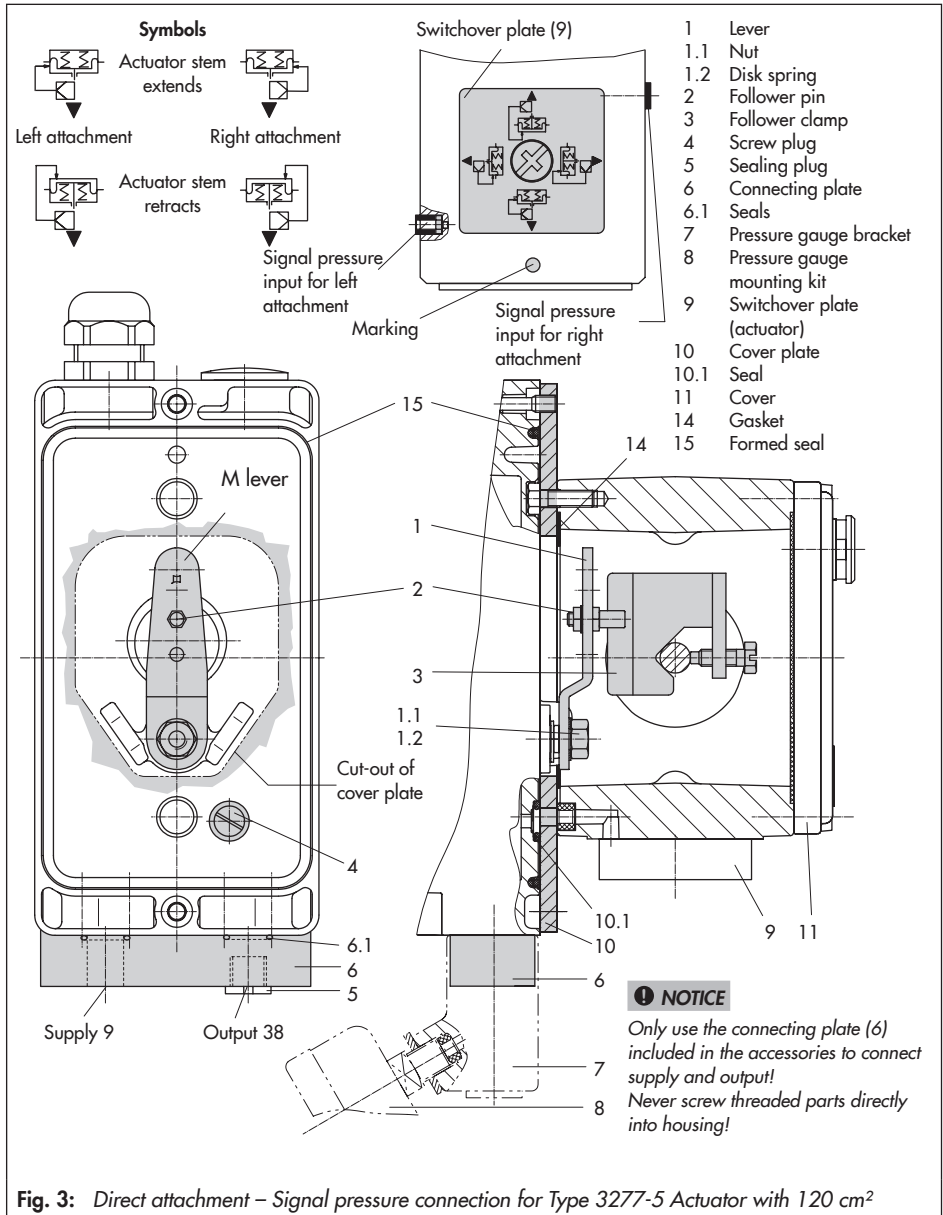

Fig. 3: Direct attachment – Signal pressure connection for Type 3277-5 Actuator with 120 cm2
#### Actuator with 120 cm2 (see Fig. 3)
1. Mount connecting plate (6) or pressure gauge bracket (7) with pressure gauges on the positioner, making sure the two seals (6.1) are seated properly.
2. Remove screw plug (4) on the back of the positioner and seal the signal pressure output (38) on the connecting plate (6) or on the pressure gauge bracket (7) with the stopper (5) included in the accessories.
3. Place follower clamp (3) on the actuator stem, align it and screw tight so that the mounting screw is located in the groove of the actuator stem.
4. Mount cover plate (10) with narrow side of the cut-out (Fig. 3, on the left) pointing towards the signal pressure connection.